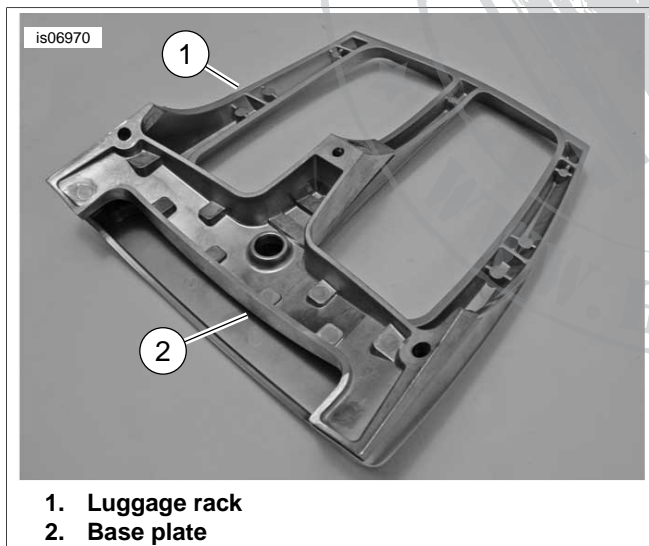

Figure 3. Luggage Rack Only Installation
2. See Figure 3. Install the base plate (2) over the luggage rack (1).